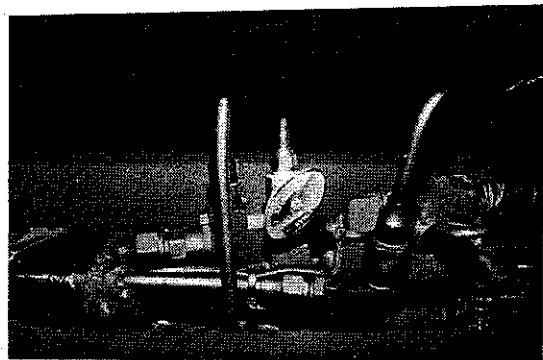
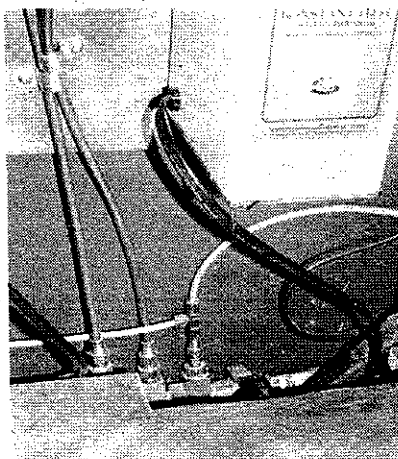

Figure 5-6. Lavatory Plumbing
Figure 5-7. Galley Sink Plumbing
3. Open the low-point drain valves located beneath the galley sink, figure 5-7, and the lavatory, figure 5-6.